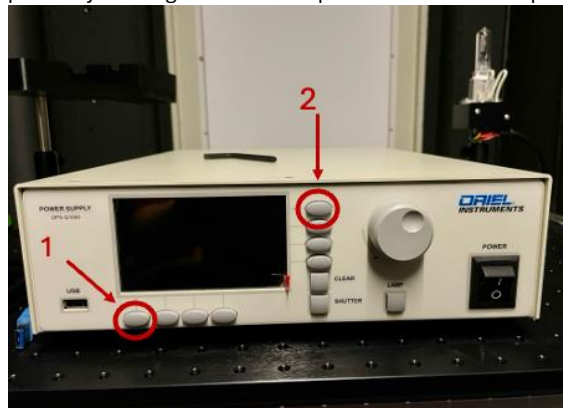

Figure 6: Power supply buttons.
- k. Click on button "1" and then "2" as seen in Figure 6. Adjust to wanted power by rotating the knob. The power sent to the lamp is "P-set".